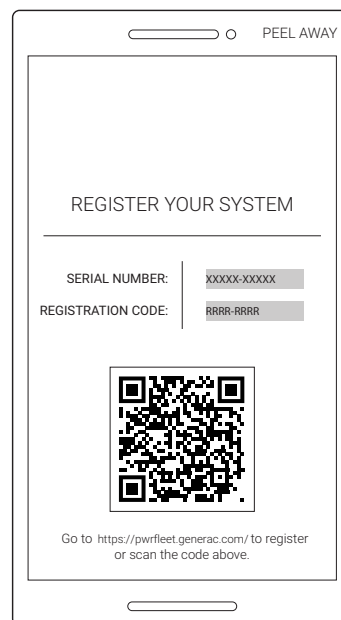

Figure 3-13. Serial Number and Registration
1. See Figure 3-13. Locate the serial number and registration code on the registration decal on the front of the inverter. This information will be required for registration.